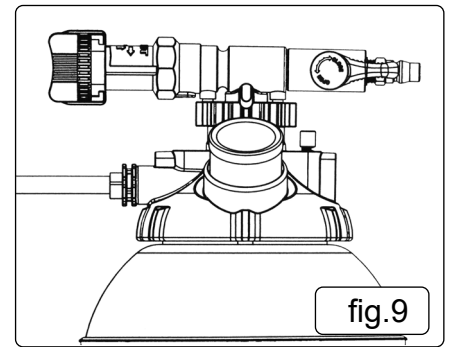

fig.9
4.2.2. Switch the lever to "OPEN" position. (fig.9)